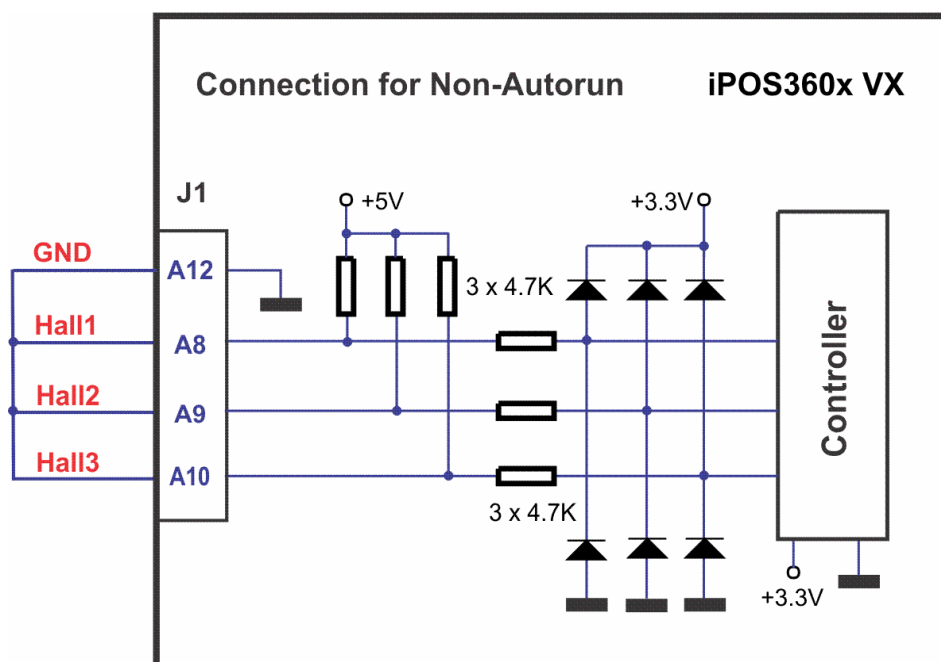

Figure 3.29. Temporary connection during power-on to remove the drive from *Autorun* mode
- Hardware – by temporary connecting all digital Hall inputs to GND, during the power on for about 1s (until the green led is turned on), as shown in *Figure 3.29*. This option is particularly useful when it is not possible to communicate with the drive.